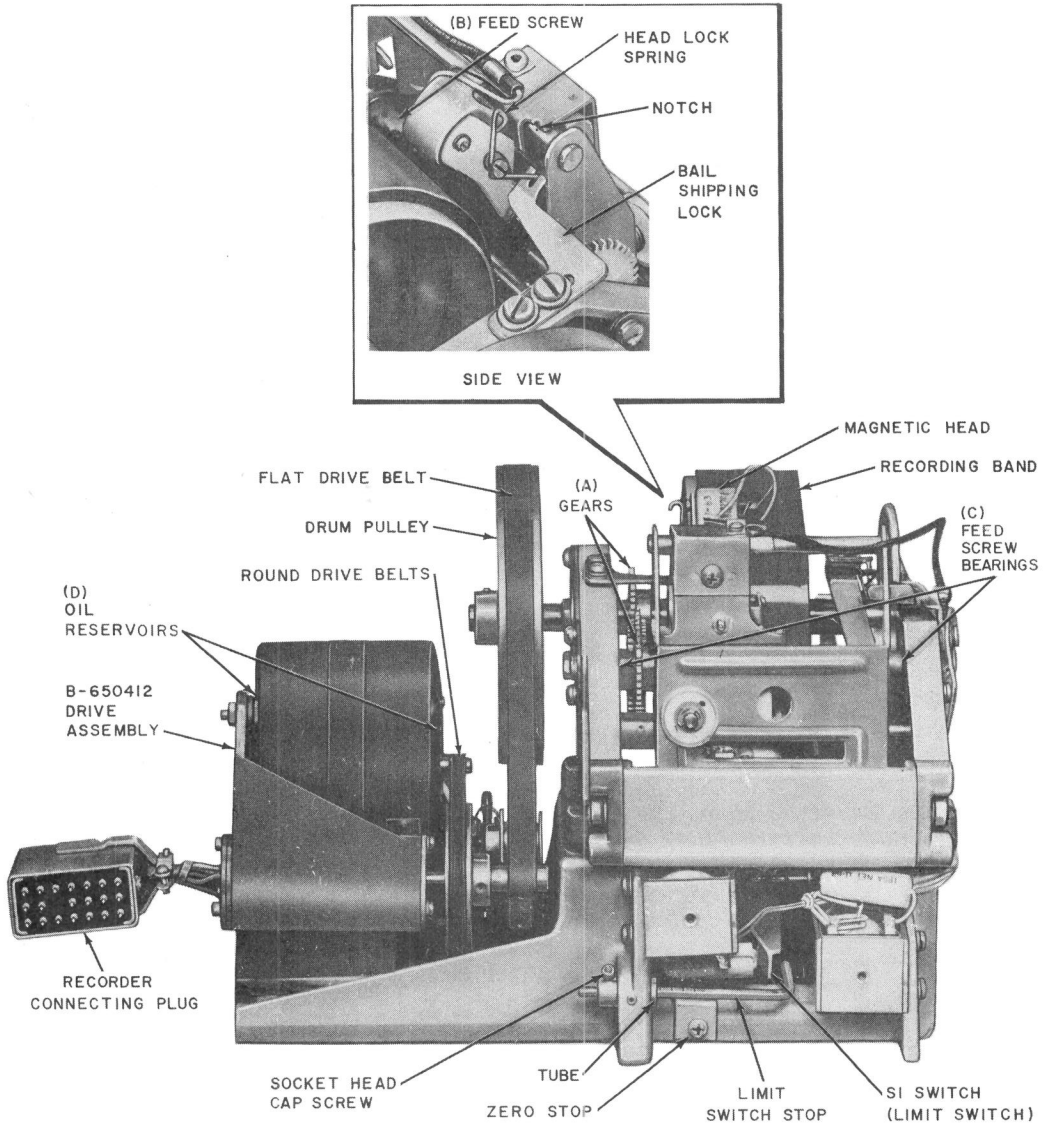

Fig. 6—KS-16765, List 3 Recorder, Front View
**2.09** The KS-16765, List 3 recorder (Fig. 6 and 7) is the announcement recording mechanism. It consists of a magnetic record-reproduce head, an apparatus for tracking and switching, and a magnetic recording band on a drum. The drum is revolved by the B-650412 drive assembly (Fig. 10)
2.12 Facilities are provided for limiting the maximum recording interval to any portion of the total capacity. This is accomplished by adjustment of the limit switch stop (Fig. 6).
##### 3.05 KS-16765, List 3 recorder (Fig. 6 and 7):